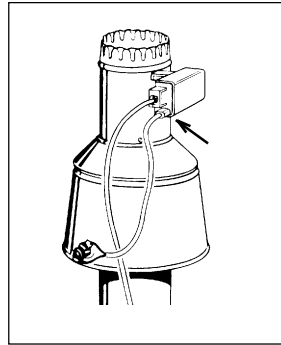

Figure 7. Drafhhood Switch Receptacle.
- h. Plug the wiring for the drafhhood switch into the receptacle on the left side of the vent damper box (see Figure 7).